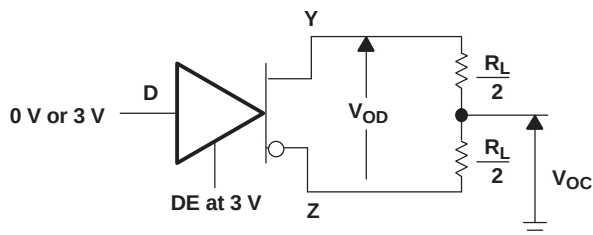

Figure 1. Differential and Common-Mode Output Voltages
| $ V_{OD} $       | Differential output voltage magnitude (2)              | $R_L = 54 \Omega$ ,See <a href="#">Figure 1</a>       | SN55LBC180                            | 1   | 2.5                | 5         | V             |
| $\Delta V_{OD} $ | Change in magnitude of differential output voltage (3) | See <a href="#">Figure 1</a> and <a href="#">Figure 2</a> |                                       |     |                    | $\pm 0.2$ | V             |
| $V_{OC}$         | Common-mode output voltage                                        | $R_L = 54 \Omega$ ,See <a href="#">Figure 1</a>       |                                       | 1   | 2.5                | 3         | V             |